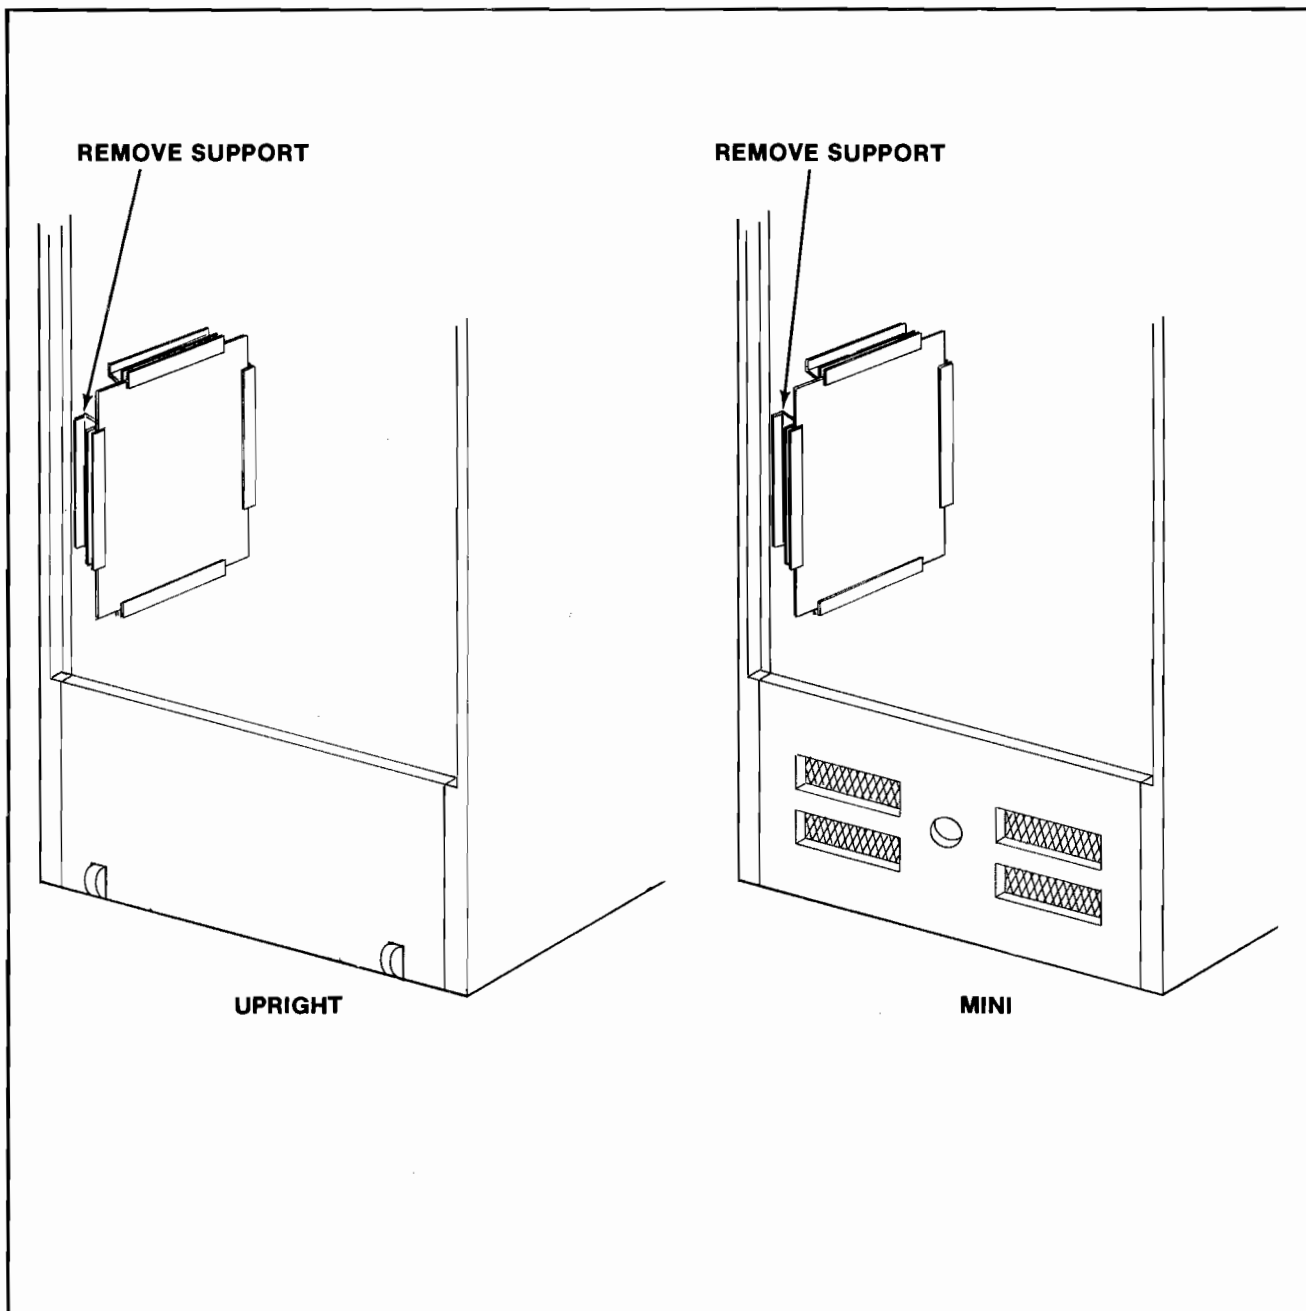

Figure 4-13 Removing PCBs
### 1. UPRIGHT MODEL. See Figure 4-13.
- Disconnect the linear power supply board from all its cabling, remove the P.C.B. supports indicated in Figure 4-13, and slide the linear power supply board out the back of the cabinet.
**2. MINI MODEL.** See Figure 4-13.
- Disconnect the linear power supply board from all its cabling, remove the P.C.B. supports indicated in Figure 4-13 and slide the linear power supply board out the back of the cabinet.
**3. COCKTAIL TABLE MODEL.** See Figure 4-13.
- Remove the linear power supply board. See Figure 4-13.